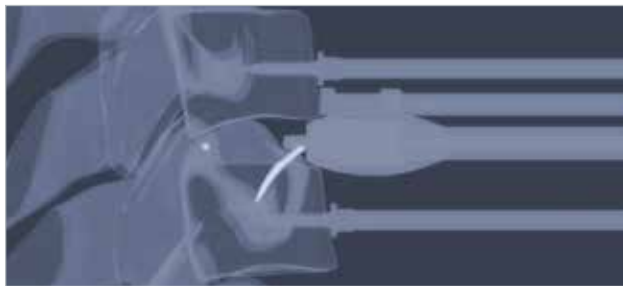

Figure 14b
- Do not proceed to the #2 impactor until proper placement of the implant and first plate are confirmed via fluoroscopy or x-ray (Figure 14b).